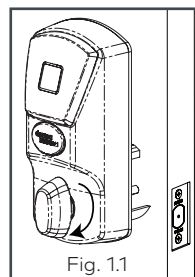

Fig. 1.1
1. Turn outside thumbturn, the deadbolt must not project. See Fig. 1.1.